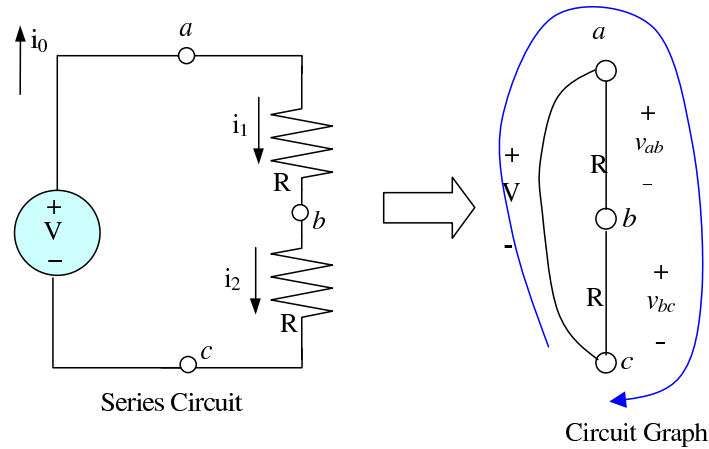

FIGURE 9. A Simple Circuit
3.5. How is circuit analysis performed? As was mentioned earlier, a circuit is an interconnection of electrical devices. For the most part, we'll be concerned with interconnections of two-terminal devices such as resistors and diodes. An example of such a circuit is shown below in figure 9. The lefthand picture is the circuit diagram and the righthand picture is the circuit's graph.
Circuit analysis requires that we determine the voltage across and current through all branches of a circuit. For the circuit in figure 9, the independent voltage source makes it easy to specify the voltage across nodes a and b , but how do we analyze the rest of the circuit? To do this, we need to invoke two special physical laws that lie at the heart of all circuit analysis. In particular, we need to use the laws known as *Kirchoff's current law* or KCL and Kirchoff's voltage law *KVL*. These two laws are conservation principles that must always be obeyed by any passive circuit. We can use these laws to help determine the voltages and currents in the circuit's branches.
A loop is a sequence of connected branches that begin and end at the same node. Figure 9 marks one of the loops in our circuit. This is the loop formed from branches
The key issue is to see how we can use KVL, KCL and Ohm's law to determine all of the branch voltages and currents in a specified circuit. We use the circuit in figure 9 to illustrate this process. What we will now do is determine all of the currents and voltages in this circuit.